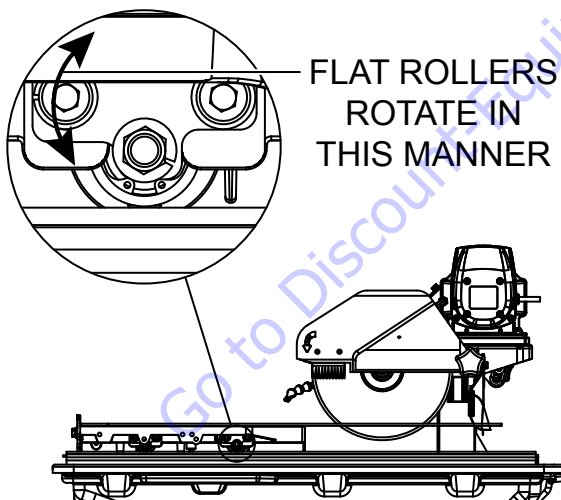

Figure 27. Flat Roller Rotation
2. Loosen the socket bolts on the flat roller plate so that the roller can swing freely about one bolt. see Figure 27. Do this for both flat roller plates.